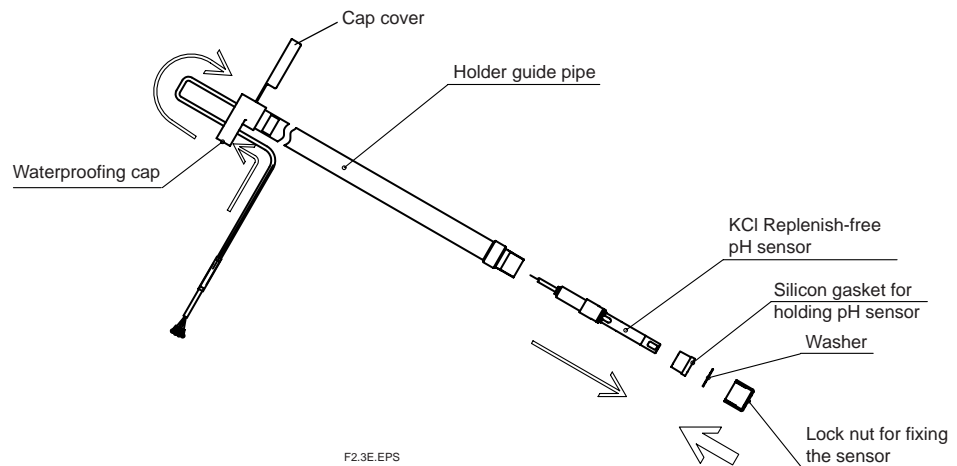

Fig. 2.3
- (1) Take the pH sensor cap, which prevents the pH sensor from drying out, off the tip of the sensor.
- (2) Mount the sensor in the immersion holder as the following procedures (See Fig.2.3 for details).
- Pass the sensor through the holder as the direction of the narrow white arrow in Fig. 2.3.
- Push out the sensor until it sticks out the other pipe side as shown in Fig. 2.3.
- Putting the removed washer between the gasket and the nut, tighten the nut so strongly so as to hold them in place. In Fig. 2.3, the wide white arrow indicates the insert direction of the gasket, washer, and nut.